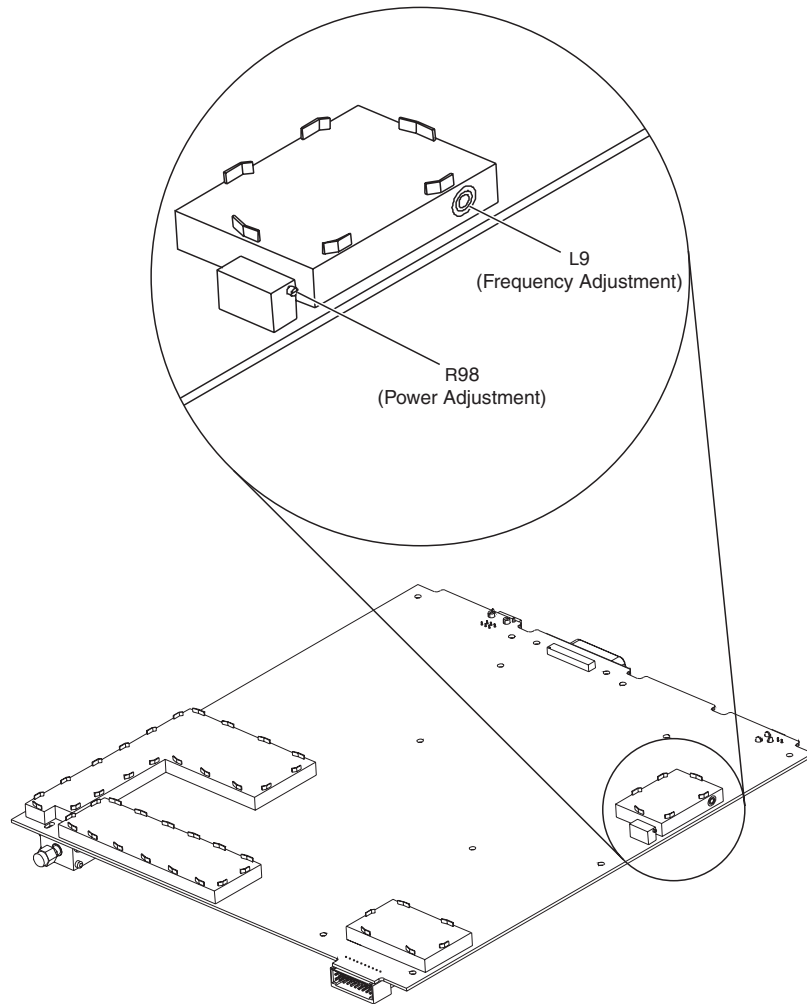

Figure 2-3. Power Reference Oscillator Adjustment Locations
- 10 Insert a small, non-conductive, slot-type adjustment tool into the hole in the side of the power reference oscillator shield (see Figure 2-3). This opening allows access to L9, the adjustable inductor that is used to adjust the frequency of the power reference oscillator.
- 7 Use a non-metallic, slot-type adjustment tool to adjust the setting of R98 on the main circuit board (see Figure 2-3) until the power level is as close to 1.000 mW as possible (the level must be between 0.988 mW and 1.012 mW). Turn the adjustment tool counter-clockwise to increase the power level or clockwise to decrease the power level.
- 22** Use a non-metallic, slot-type adjustment tool to adjust the setting of R98 on the main circuit board (see Figure 2-3) until P_{rf} is between 0.988 mW and 1.012 mW. Turn the adjustment tool counter-clockwise to increase the power level or clockwise to decrease the power level.